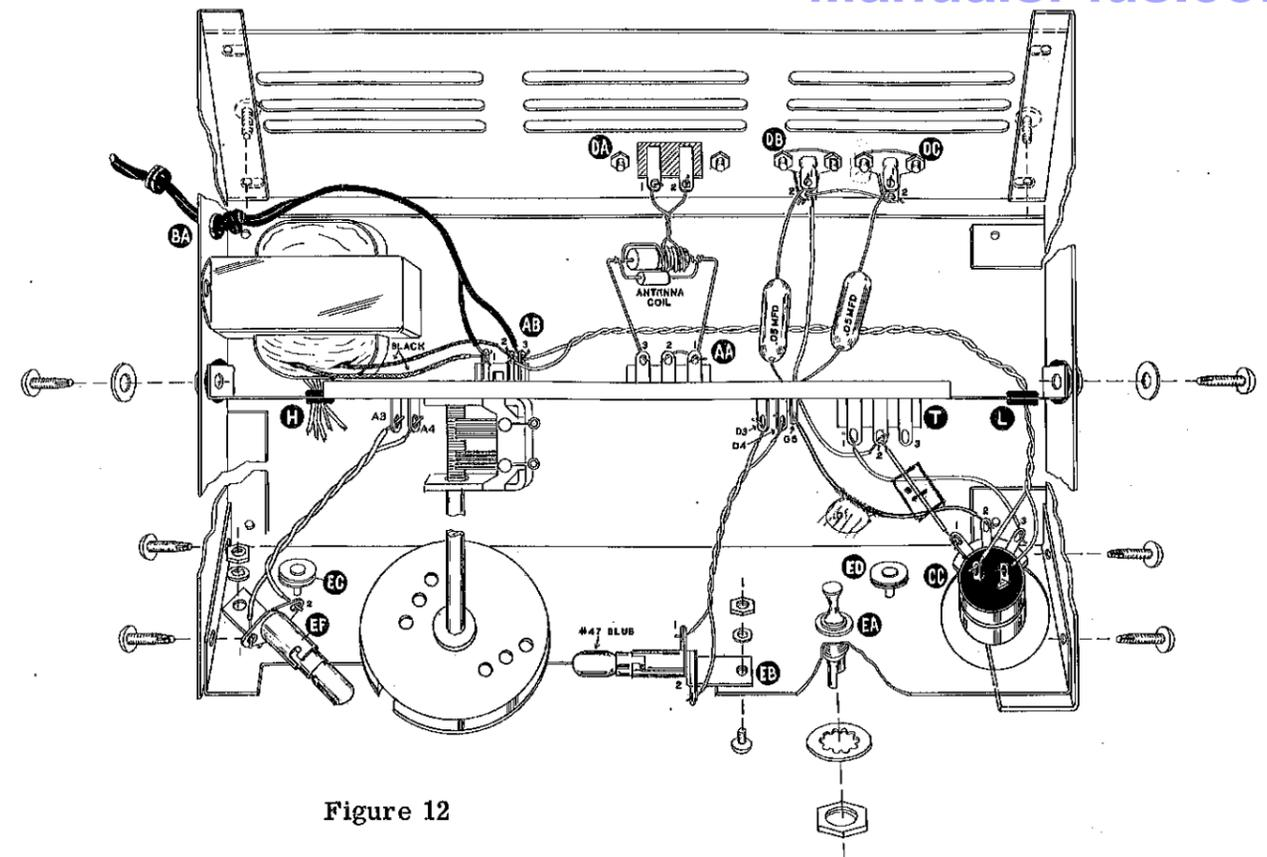
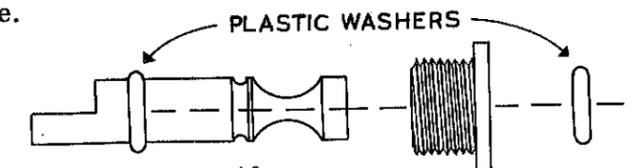
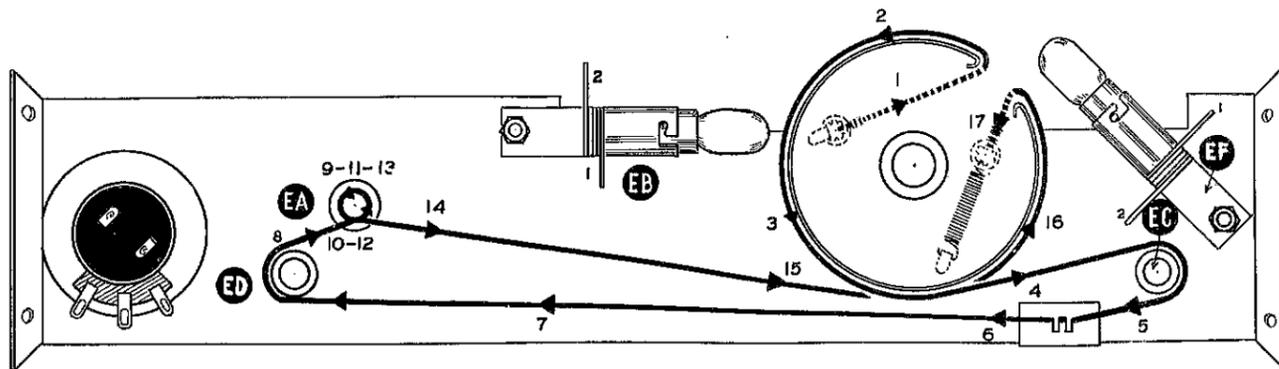

Figure 12
Figure 16
Figure 17
- (✓) Mount bracket B on the left or tuning condenser end of the chassis, with the transformer fitting over the chassis top as shown in Figure 12. Place a 9/16" washer on a 6-32 self-tapping screw and insert through the spacer previously installed in grommet BH. Line the screw up with the top chassis opening and secure the assembly. Before completely tightening the screw, start the second self-tapping screw and washer through the bottom opening BJ. Now tighten both screws.
- (✓) Install two 7/16" grommets in the large openings in the right hand bracket and insert the 3/16" metal spacers in each grommet. Install the bracket on the right hand end of the chassis in the same fashion. The large hole should be forward. See Figure 12.
- (✓) Place the red, red-yellow and green power transformer leads through grommet H on the chassis. Cut one green lead to length sufficient to reach socket A3, strip and tin the lead and connect it to A3 (NS).
- (✓) In the same fashion, connect the remaining green lead to socket A4 (NS).
- (✓) Cut two wires to a length of 3 1/2". Strip all four ends and twist together. At one end of the twisted pair, connect one lead to socket A3 (S) (3) and the other to A4 (S) (3).
- (✓) Connect the red-yellow lead to terminal strip M2 (S) (1).
- (✓) Connect a red lead to socket A1 (S) (1). Dress over the socket to keep this lead above the chassis edge.
- (✓) In the same manner, connect the remaining red lead to socket A6 (S) (1).
- (✓) On top of the chassis, connect one black transformer lead to terminal strip AB1 (NS). See Pictorial 2.
- (✓) Connect the remaining black lead to terminal strip AB2 (NS).
- (✓) Mount pilot lamp socket EF on the dial plate with 6-32 hardware. Observe Figure 12 and 17.
- (✓) Mount the dial plate as shown in Figure 12, with the long cut-out facing upward. Secure with 6-32 self tapping screws in the four foremost holes in the end brackets.
- () Install the back plate with the bent flange to the bottom. Use 6-32 self-tapping screws in the bottom holes at each end only, as shown in Figure 12.
- () Connect one of the twisted leads of the antenna coil to terminal strip DA1 (S) (1) and the remaining lead to DA2 (S) (1).
- () Connect a bare wire from connector ground lug DB2 (NS) to connector ground lug DC2 (S) (1).
- () Connect the insulated wire appearing through chassis grommet K to connector ground lug DB2 (S) (2).
- () Connect the free lead of the .05 μ fd 400 volt condenser previously bent toward socket B to connector DB1 (S) (1).
- () Connect the free lead of the remaining .05 μ fd 400 volt condenser to connector DC1 (S) (1).
- (✓) Assemble the dial drive shaft assembly as shown in Figure 16. Begin by pushing one of the plastic "O" washers on the shaft from the flatted end until it falls in place in the slot provided for it. Do not use tools with sharp edges to force the washer over the edge of the flat, for it is possible that the washer will be broken. After the first washer is in place, put a small amount of lubriplate or vaseline on the shaft. Do not use an excessive amount since it may cause dial cord slippage. Install the bushing in the direction shown in Figure 16 and install the other plastic washer from the drive side of the shaft. A spare washer is furnished in case of accidental damage during installation.
- (✓) Mount the drive shaft assembly through the dial plate from the rear at location EA. Refer to Figure 12 and note that the bushing goes through the dial plate, a large lockwasher and a control nut. Tighten securely.
- () Identify the two wires previously connected to socket D3 and D4. Connect one wire to pilot light socket EB1 (S) (1) and the other to EB2 (S) (1).
- () Identify the two wires previously connected to socket A3 and A4. Connect one wire to pilot light socket EF1 (S) (1) and the other to EF2 (S) (1).
- (✓) Observe Figure 17 and install the dial cord assembly. Begin by hooking one of the eyelets over the ear provided on the tuning drum. Run the cord counterclockwise around the pulley (looking from the back of the tuner), around idler pulley EC, across the dial plate to idler pulley ED, around drive shaft EA 3 turns and back to the bottom side of the drum. Bring the cord counterclockwise around the drum and through the opening. Hook the dial cord spring on the remaining ear on the drum and the other end of the spring to the eyelet on the dial cord.